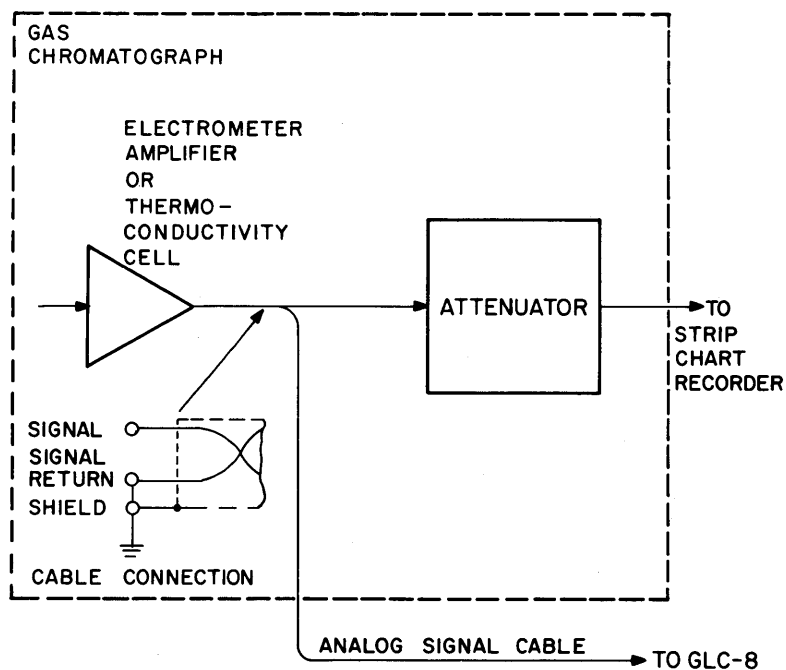

Figure 4-6 Installation of Analog Cable Assembly
a. As shown in Figure 4-6 the cable assembly should be connected to the output of the electrometer amplifier or the thermo-conductivity cell ahead of the strip-chart recorder attenuator. A change of inverted attenuation while the gas chromatograph is on-line with the GLC-8 will cause a discontinuity of signal and corresponding in-accurate gas chromatography results.
b. Both the signal return line and the shield should be terminated at signal ground at the gas chromatograph, as shown in Figure 4-6 and the shield floated at the GLC-8. Refer to the installation and planning section.